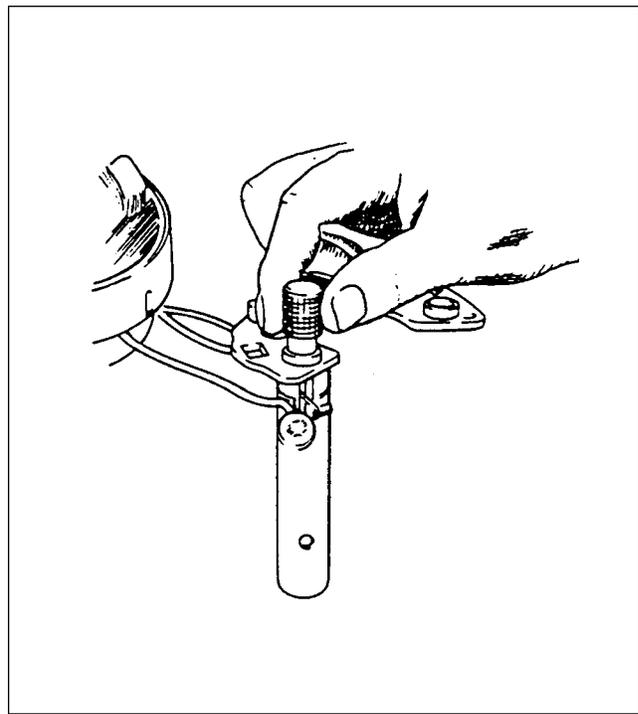

Figure 24-39. Testing Alternator
1. Wiring connections for bench testing alternator are shown in figure 24-39. Refer to individual specification chart 2403 for output test figures. Adjust carbon pile if necessary, to obtain specified voltage.
*Always refer to wiring diagram (refer to figure 24-39) when installing or testing alternator.*